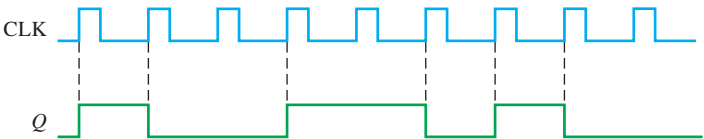

FIGURE 7-78
9. The Q output of an edge-triggered D flip-flop is shown in relation to the clock signal in Figure 7-78. Determine the input waveform on the D input that is required to produce this output if the flip-flop is a positive edge-triggered type.